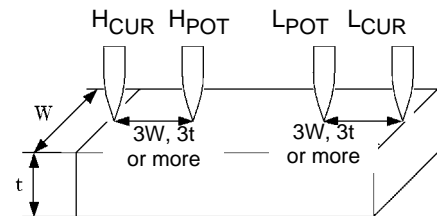

Figure 8. Probe Positions on Wider/Thicker DUT
It is known that such effects can be minimized by detecting the voltage within the space between the current contact points. Generally, if the distance between the voltage detection points and their corresponding current application points (CUR, POT terminals) is greater than the width (W) or thickness (t) of the DUT, current distribution may be considered uniform. As shown in Fig. 8, POT leads should be 3W or 3t mm or more inside from the CUR leads.